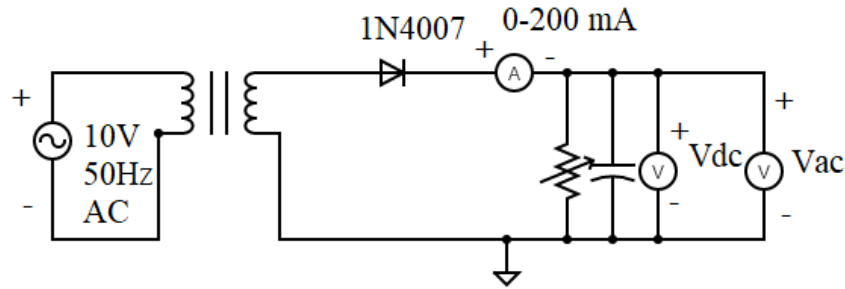

Figure 5.2: Circuit Diagram for Half Wave Rectifier with Filter
1. Connect the circuit as shown in Figure 5.2.